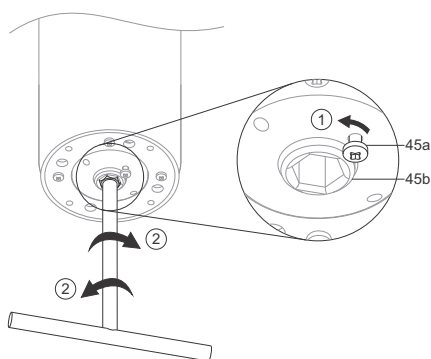

Fig. 9 Adjusting of shaft height
23. To adjust the shaft height, attend to the ND-end of the motor. Slacken the lock screw, pos. 45a, in the shaft height adjusting unit, pos. 45, and adjust the height by turning the screw, pos. 45b, by using the shaft height adjustment spanner, pos. U. See fig. 9.